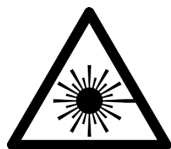

**Figure 2.1** Card Connectors with Dust Caps Installed
- Connectors must always be inserted into a device or have a dust cap on. Refer to **Figure 2.1** for dust cap locations.
3. Remove the dust caps from the Fiber ports on the Rear Module that faces the interior of the frame. Refer to **Figure 2.1** and **Figure 2.2** for dust cap locations.
- Refer to **Figure 2.1** and **Figure 2.3** for connector location.